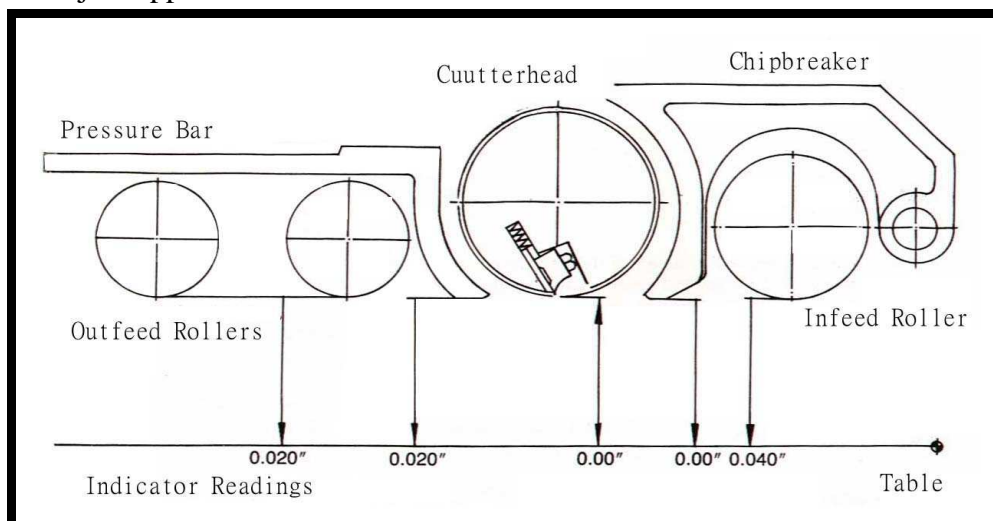

Fig. 14
The infeed roller, Chipbreaker, pressure bar, and outfeed rollers are adjusted at the factory. The infeed roller and the chipbreaker are to be set .020" below the cutting circle, the pressure bar is to be set .040" below the cutting circle and the outfeed rollers are to be set .020" below the cutting circle, as shown in Fig. 14. For example to check and adjust the outfeed roller below the cutting circle .020", proceed as follows:
3. Place a square block on the table directly underneath the cutterhead. Place a feeler gage on top of the square block. Raise the work table until the knife tip just touches the feeler gage. Do not move the work table any more until the outfeed roller is adjusted as shown in Fig. 14.